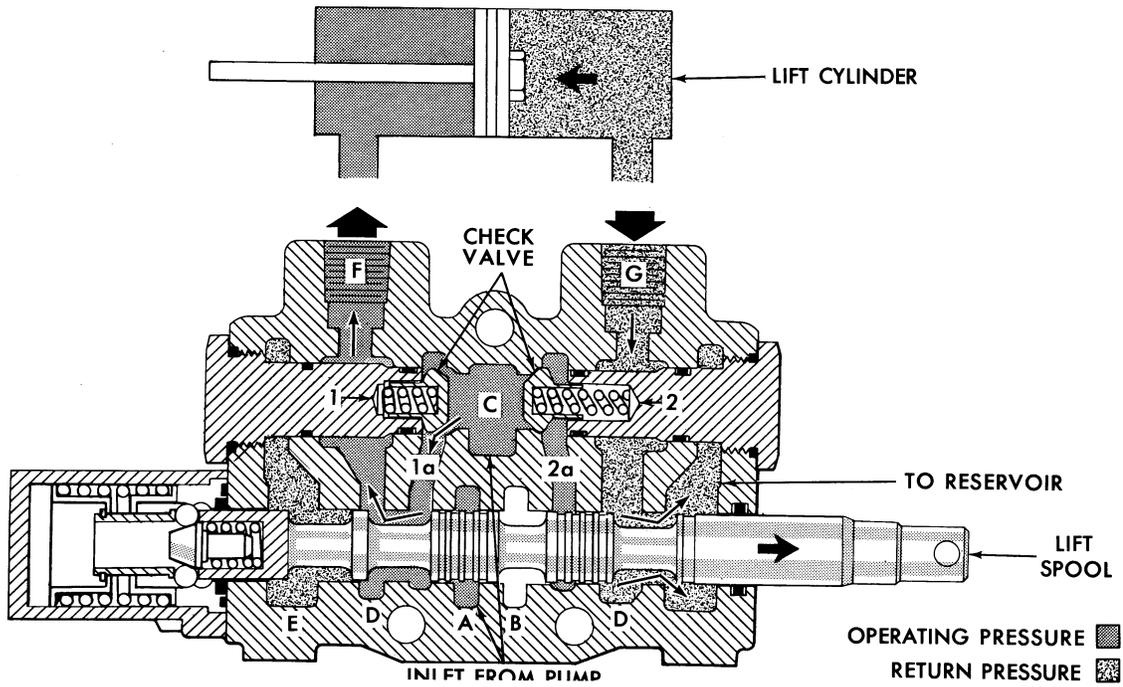

Figure 22
Figure 22 illustrates oil flow through the lift section to the cylinder hose ports, with the spool moved to the right, causing the lift arms to lower. Oil enters the inlet port of the lift section at (A). The spool lands block the oil from flowing through the valve section. All pumped oil is directed through drilled passages to passage (C) where it is blocked at the end plate. This causes an oil pressure buildup in passage (C). As the pressure increases, check valves (1) and (2) are unseated to allow pressured oil to enter passages (1a) and (2a). Oil is blocked at passage (2a) by the spool land. Pressured oil flows by the check valve (1), through passage (1a), around the spool, and to the hose port (F). From there it flows to the hose ports of the lift cylinders.